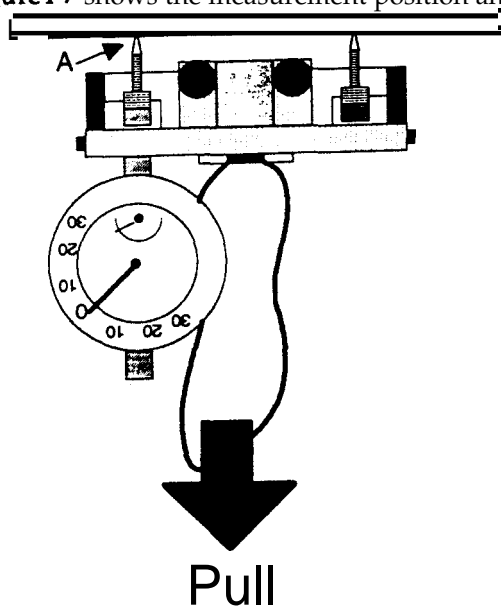

Figure 4-7. Dial Gauge Attachment
| Figure 4-7. Carriage Guide Shaft Parallelism Adjustment . . . . . | 4-5        |
*The parallelism is adjusted so that the difference between the distances (from the rear carriage guide shaft to the platen measured at the two positions shown in Figure 4-7) is less than 0.01 mm. Since this value is extremely small, you must use the 2 dial gauges, dial gauge base, and dial gauge master supplied by Epson. Do not adjust the parallelism using any other method.*
8. Measure the distance between the platen and the carriage guide shaft on the **left side**. Then measure the distance between the platen and the carriage guide shaft on the right side, and compare these values. (Figure 4-7 shows the measurement position and the parallelism adjust lever operation.)